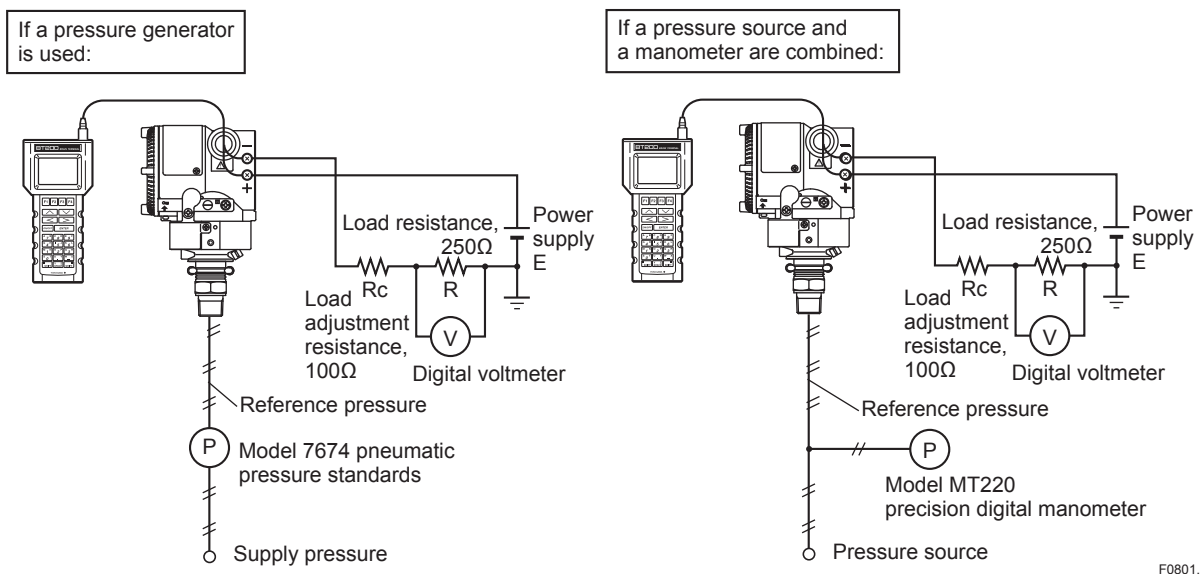

Figure 8.1 Instrument Connections (4 to 20 mA output)
- 1) Connect the transmitter and apparatus as shown in Figure 8.1 and warm it up for at least five minutes.
- 1) Connect the instruments as shown in figure 8.1 and warm up the instruments for at least ten minutes.